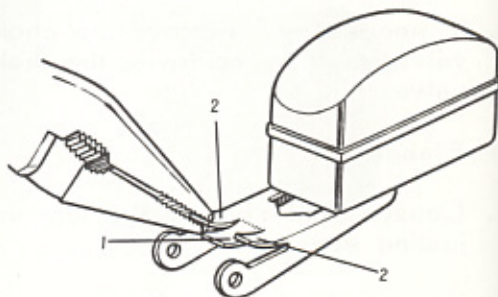

Fig.4-28 Float Tab
To obtain a correct clearance, bend the tab at (1) in figure 4-28.
To obtain correct clearance, bend the float tab at (2) in figure 4-28.